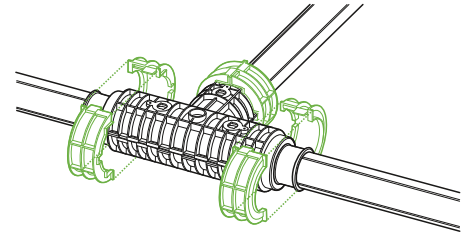

Fig. B12.1.6
5. Fix the sealing rings onto the Insulation Shell ends with collars that are joined by a latching system (Fig. B12.1.6).